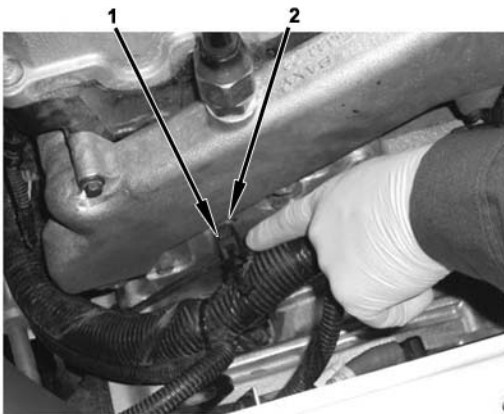

Figure 42 Engine Harness Guide
19. Install the engine harness guide (1) to M8 x 50 x 16 stud bolt (2) and torque to 26 lb-ft (35.2 N•m) (Figure 42).